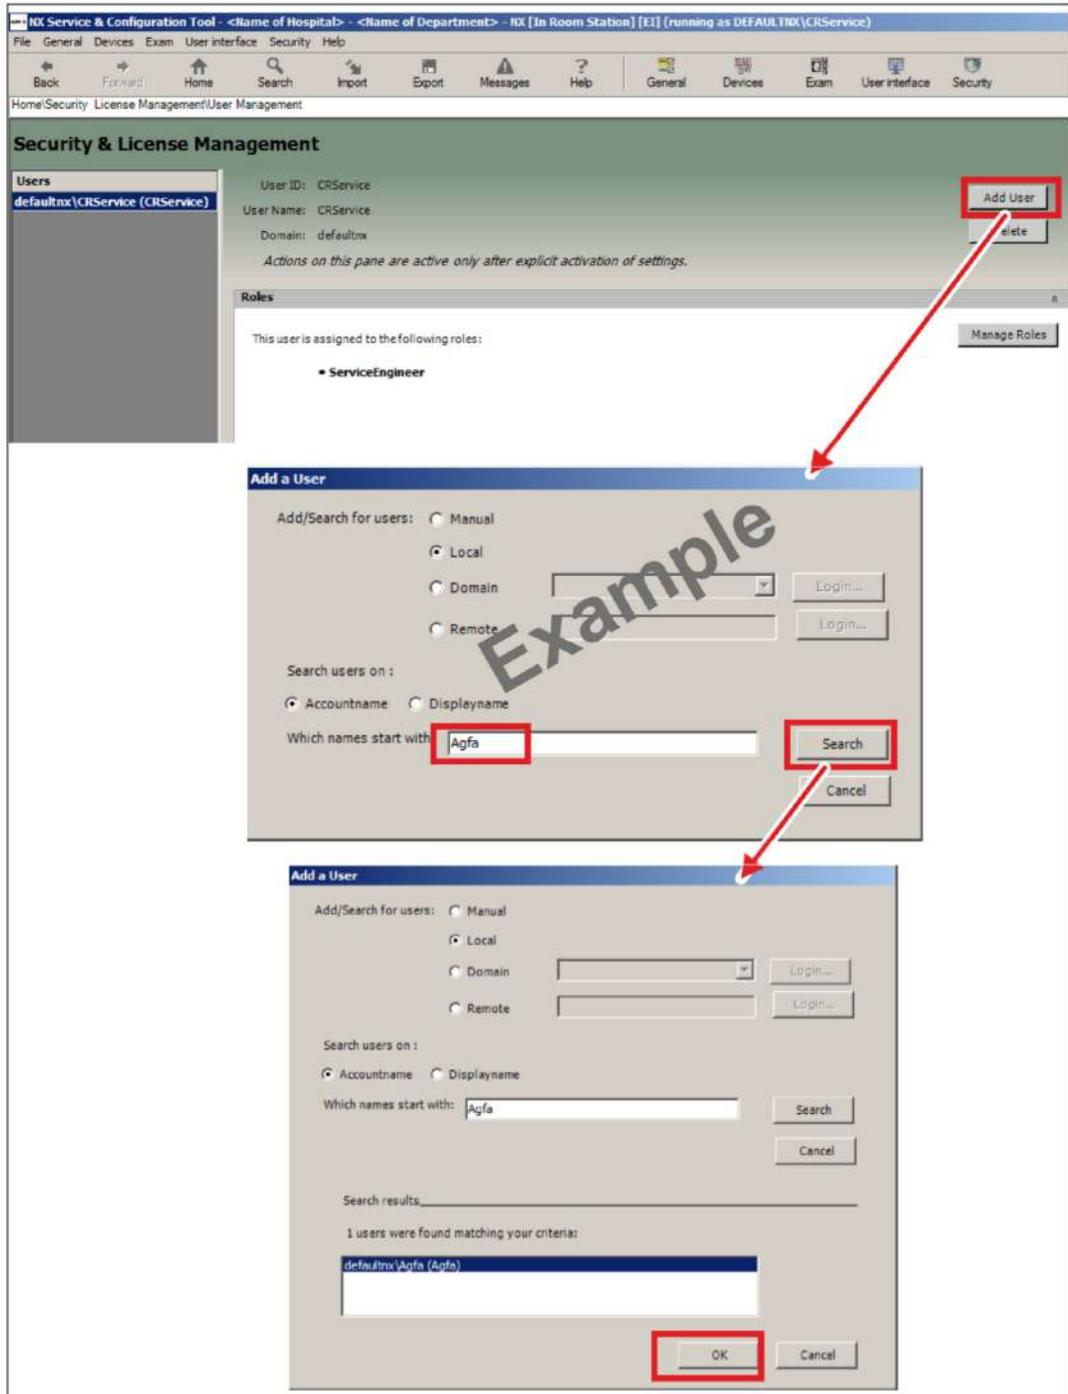

Figure 7
- (2) Start the NX Configurator (via Desktop Shortcut).
(3) Select: **<Load active configuration>**
(4) Select: **Security > Manage Users > Add User**
(5) Add NX users and roles. For an example see Figure 7 and Figure 8.